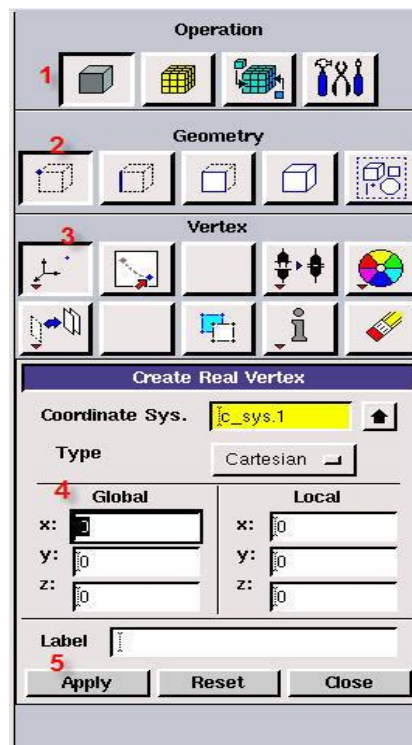
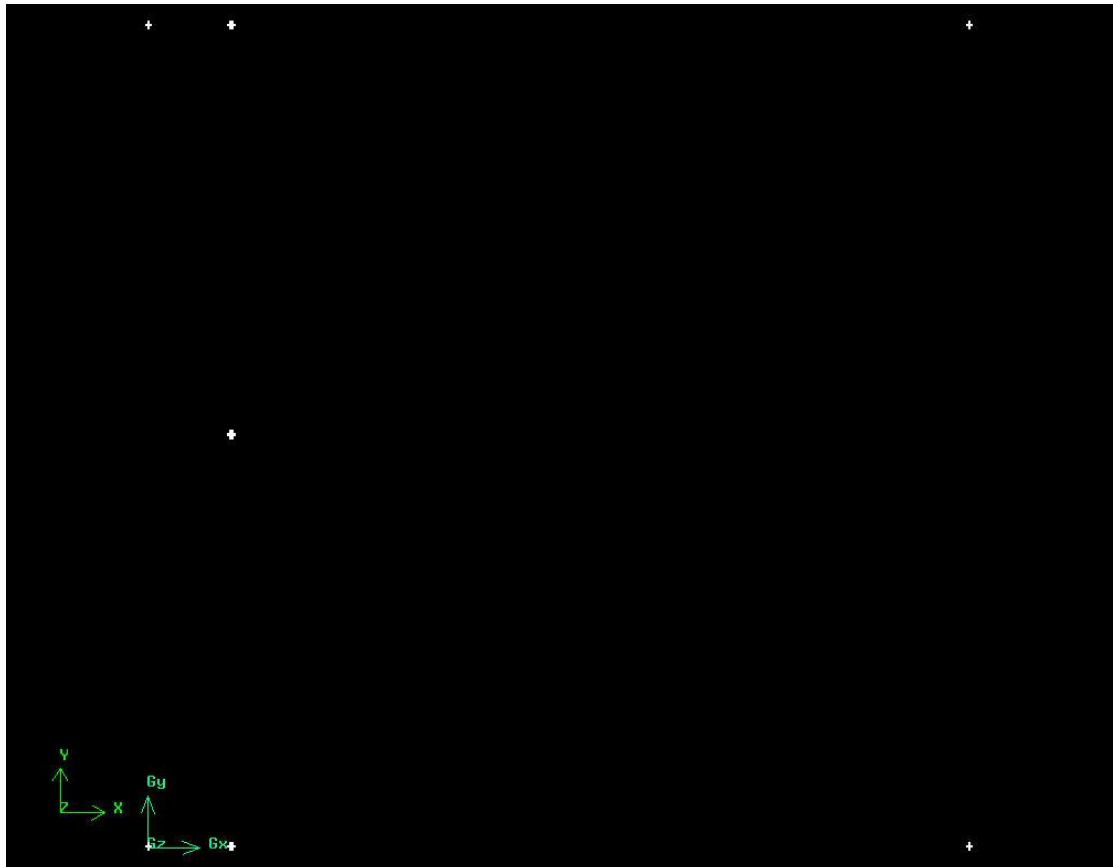

Figure 2.1 Input steps to generate key points
Figure 2.2 Key points generated at step (a). Key points are indicated in white colour points.
Illustrated in Figure 2.1, in the **Operation Toolpad**, select **Geometry Command Button (1)** >> **Vertex Command Button(2)** >> **Create Vertex Button (3)** then input the key point coordinates in the **Form Filed (4)** and press **Apply(5)** to generate a series of key points. Coordinates of the geometry key points are given in Table 1 and Figure 2.2 demonstrates all the key points generated at this step.